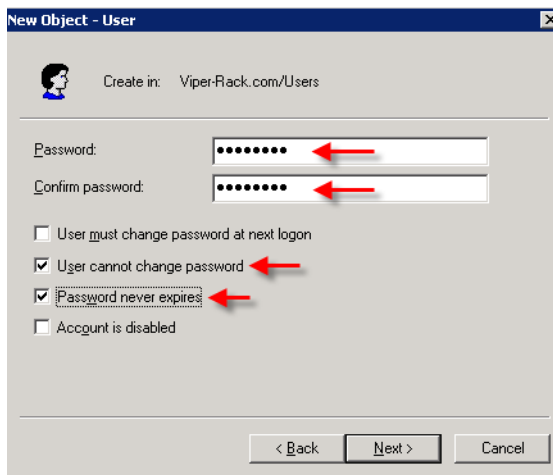

Figure 2-40 Setting the User Password
- Click **Next** and the User Password dialog will open, as shown in figure 2-40. Create and confirm a password and set the properties as indicated.